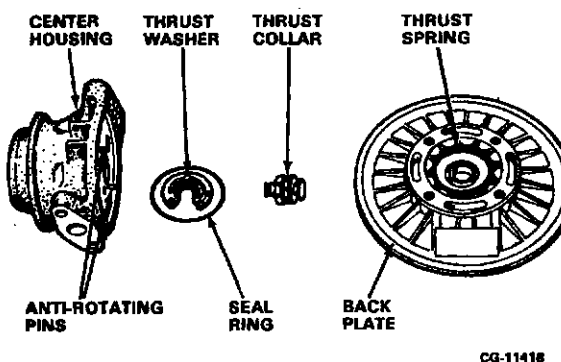

Figure 2.29. Center Housing and Back Plate Components
- Remove the seal ring, thrust collar and thrust washer from the center housing (Figure 2.29). The thrust spring located in the back plate is replaceable, but should not be removed unless replacement is necessary.
4. Place the shroud (21) over the turbine end of the center housing. Carefully insert the turbine wheel assembly (22) through the shroud and center housing. The piston seal ring must be positioned with the shroud to align with the center housing bore to prevent piston seal ring damage. Apply a gentle downward pressure to the turbine wheel while rotating the wheel shroud. This will help the piston seal ring seat in its bore.
5. Install a new piston seal ring onto the thrust collar (14). Install the thrust washer onto the collar with the flat surface of the washer next to the large diameter of the collar.
6. Install the thrust collar and washer over the turbine wheel assembly shaft (22); thrust washer first and engage the holes in the washer with the anti-rotating pins (Figure 2.29) in the center housing.
7. Install a new seal ring (11) into the groove in the compressor side of the center housing.
9. Align the marks, made prior to disassembly, on the back plate (10) with those on the center housing (18) and carefully install the back plate over the shaft and thrust collar.
10. Install the center housing to back plate capscrews (19) and tighten to specified torque. See Specifications.
11. Slip the compressor impeller (9) onto the shaft. Apply a small amount of clean engine oil on the threads and washer face of the lock nut (8). Install the lock nut finger-tight.